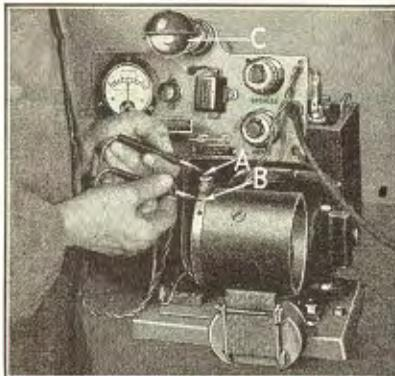

Fig. 495
- 969** To make sure that none of the metal parts on the windings are coming in contact with pole pieces or yoke, the field coil assembly should be tested for grounds. This is done by placing one test point on motor terminal (See "A" Fig. 495), and the other on yoke "B". If test lamp "C" lights there is a ground in the coils. If lamp does not light, field coils are O. K.